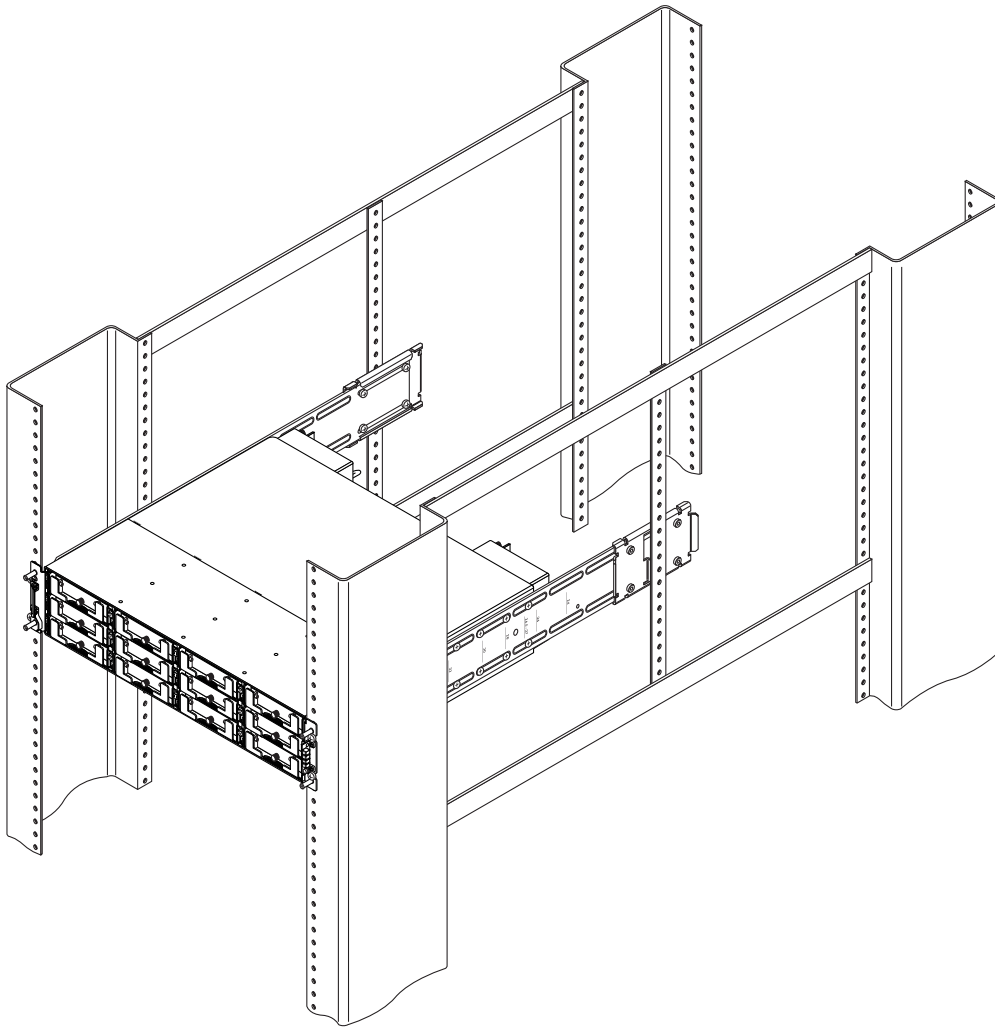

FIGURE 2-2 Rackmounted Cabinet Array Using Middle Brackets With Chassis Ears and Bezels Removed, After Installation
- You can mount a cabinet using middle and side brackets at 24.5 inches (62.22 cm). FIGURE 2-2 displays a completed installation of a Sun StorEdge 3000 Family 2U array in a Sun Fire cabinet using middle and side brackets.
Refer to the parts list in TABLE 2-1 and the illustration in FIGURE 2-2 during installation. The table lists the major components and fasteners required to install an array into the cabinet.